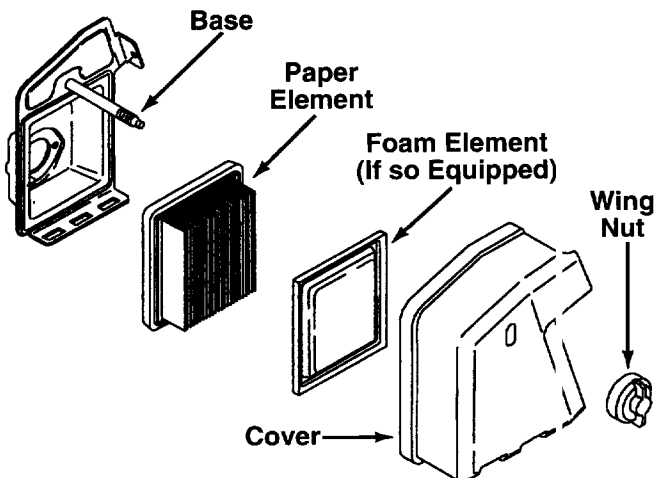

FIGURE 16.
- Remove wing nut and cover. See figure 16.